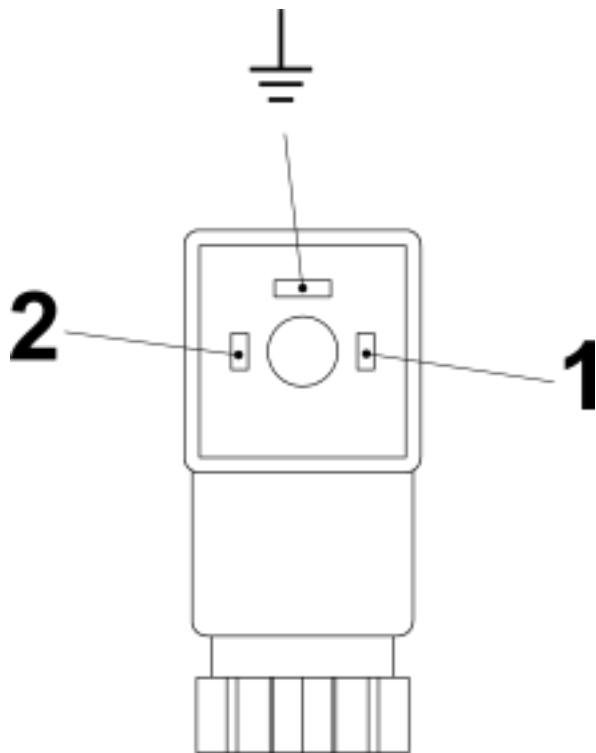
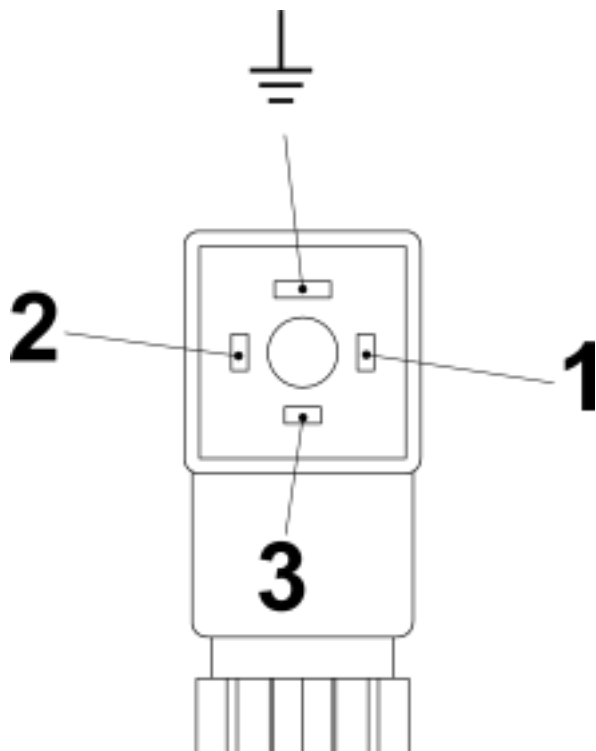

Fig. 25: Pin assignment, plug socket, Normally Open Contact (Form 15x50)
Fig. 26: Pin assignment, plug socket, Change-over contact (Form 15x50)
- 6.** ➤ Make the connections as shown in the connecting diagram (*Fig. 25 und Fig. 26*)